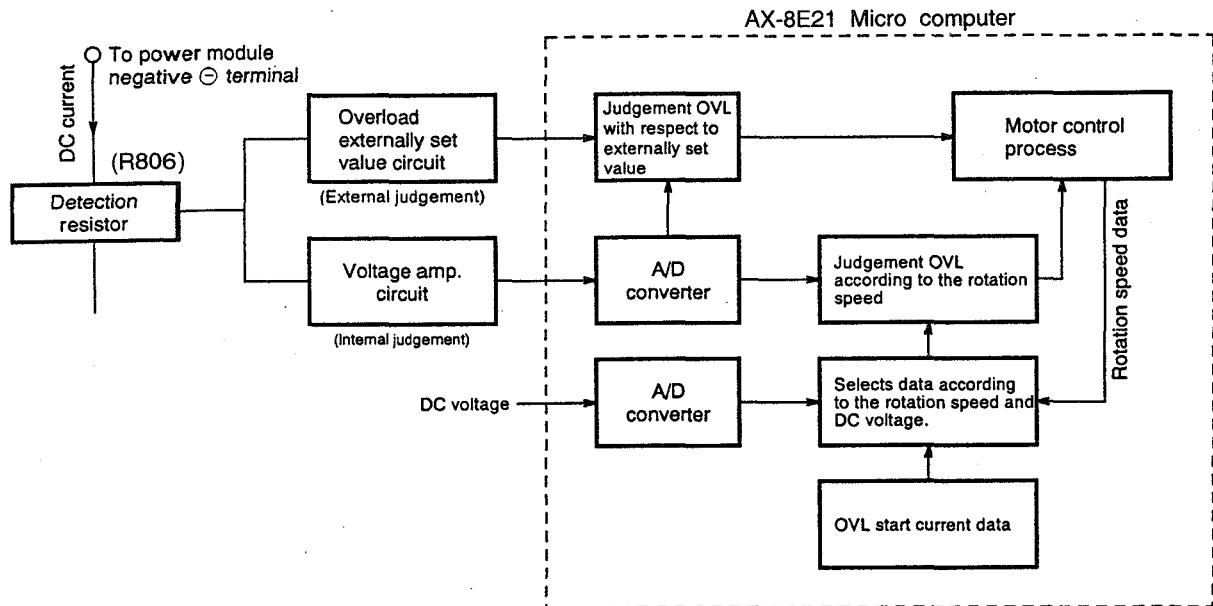
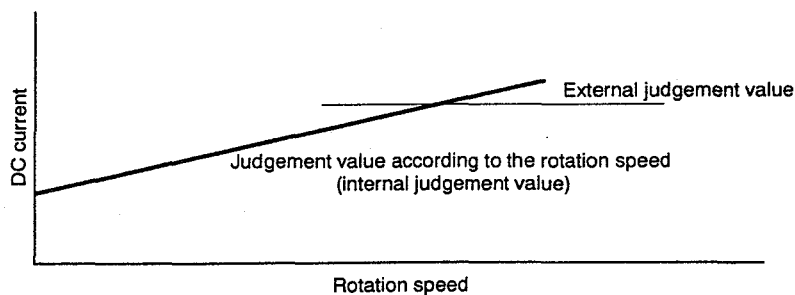

Fig. 8-4 Overload Control System Configuration
Fig. 8-5
- As shown in the figure, when current exceeding 18A flows, voltage at point A detected by detection resistor is input to  $\oplus$  terminal of COM (A). If it exceeds  $\ominus$  terminal voltage, which is set value, output pin voltage (point B) of COM (A) changes from Lo to Hi. Thus, Q1 is turned ON to stop drive circuit and, at the same time, voltage at point C changes from Hi to Lo to send Ip signal to pin 22 of microcomputer (observed by pin 30 of HIC) and microcomputer stops drive.
(2) Overload control circuit (OVL control circuit)
- Fig. 8-4 shows the overload control system configuration and Fig. 8-5 is a characteristic diagram of overload judgement values. There are two judgement methods-external judgement which compares the externally set value with the DC current value regardless of the rotation speed and internal judgement which compares the set value that varies according to the rotation speed programmed in the micro computer software with the DC current value.